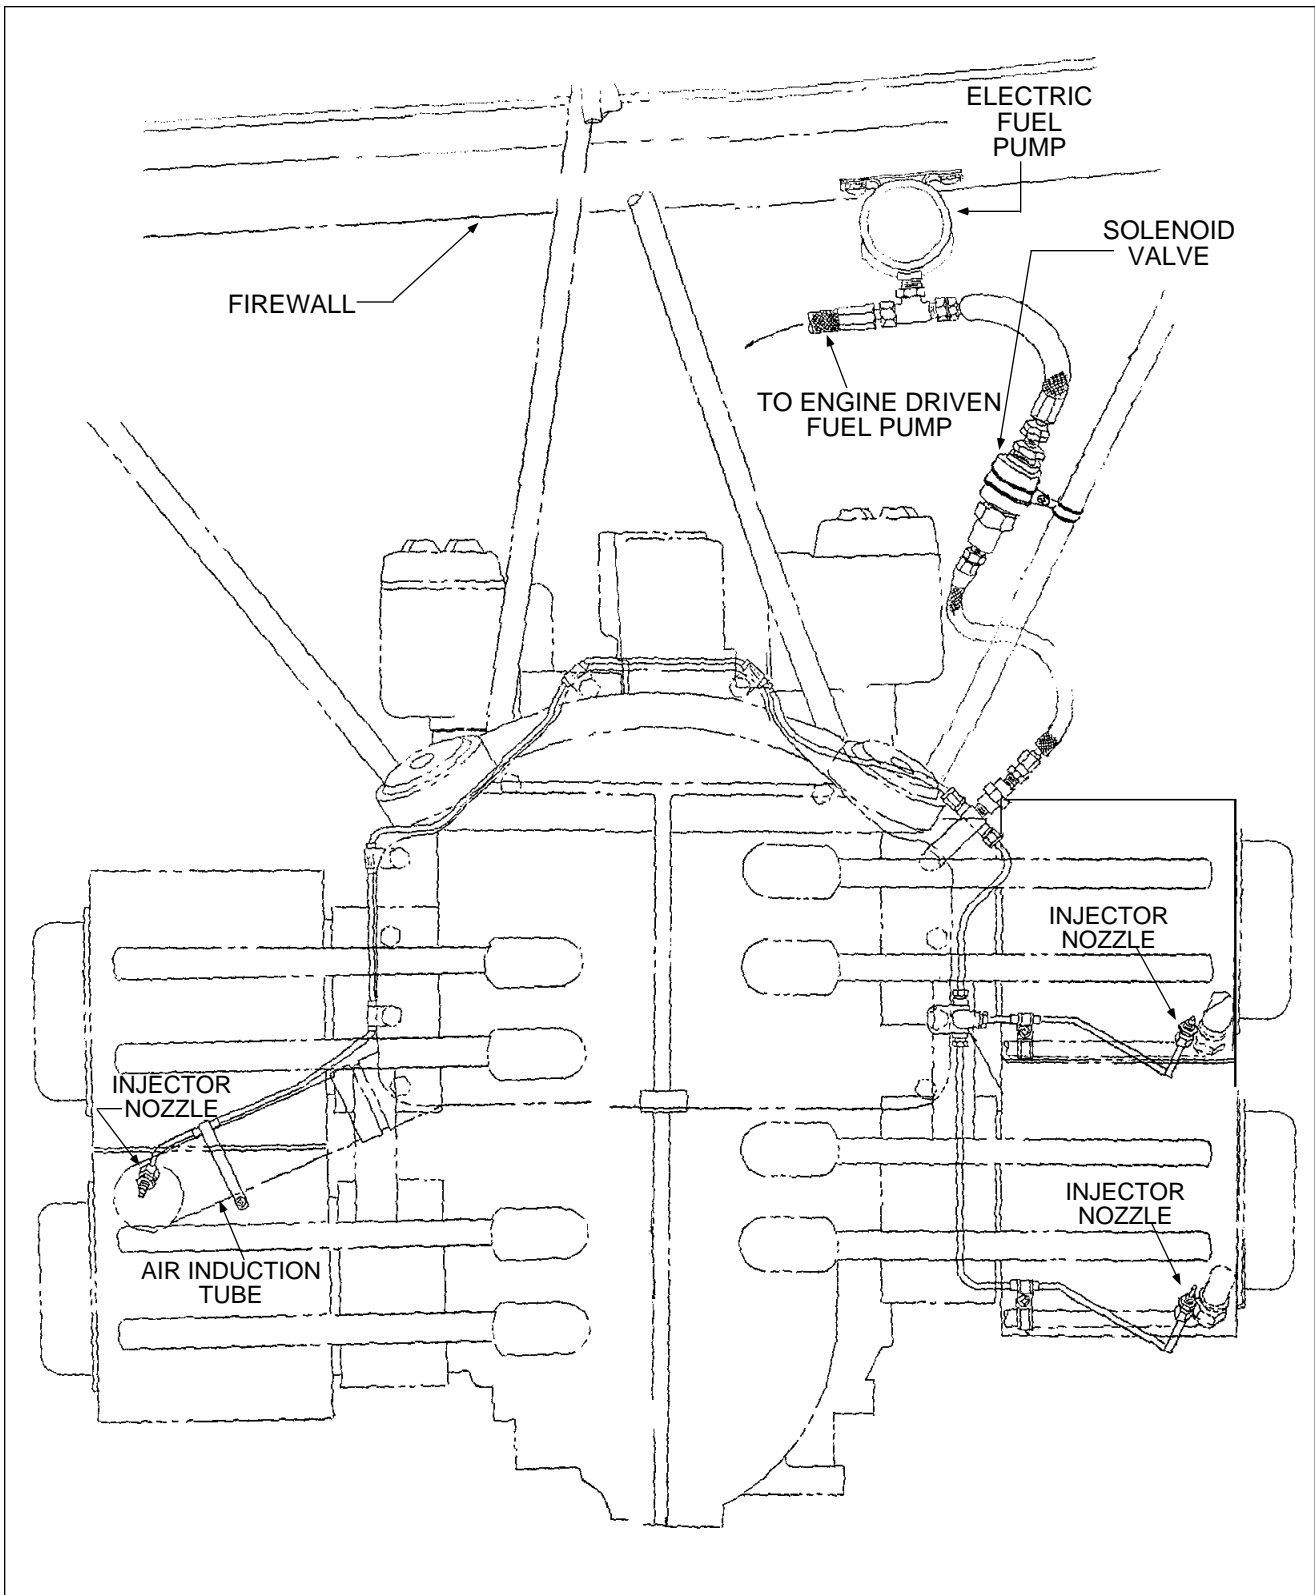

Figure 73-3. Archer III Fuel Primer System
2. Archer III (S/N's 2890206 and up) (Refer to Figure 73-3)
ADJUSTMENT OF THROTTLE AND MIXTURE CONTROLS (Refer to Figure 73-3.)